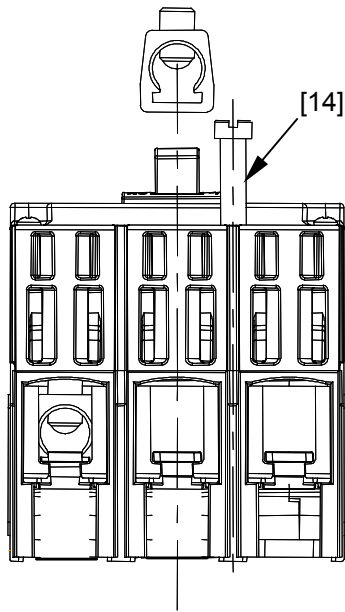

Figure 4. Remove the lugs from breaker.
1. Remove the lugs from breaker (if installed), as illustrated in Figure 4.